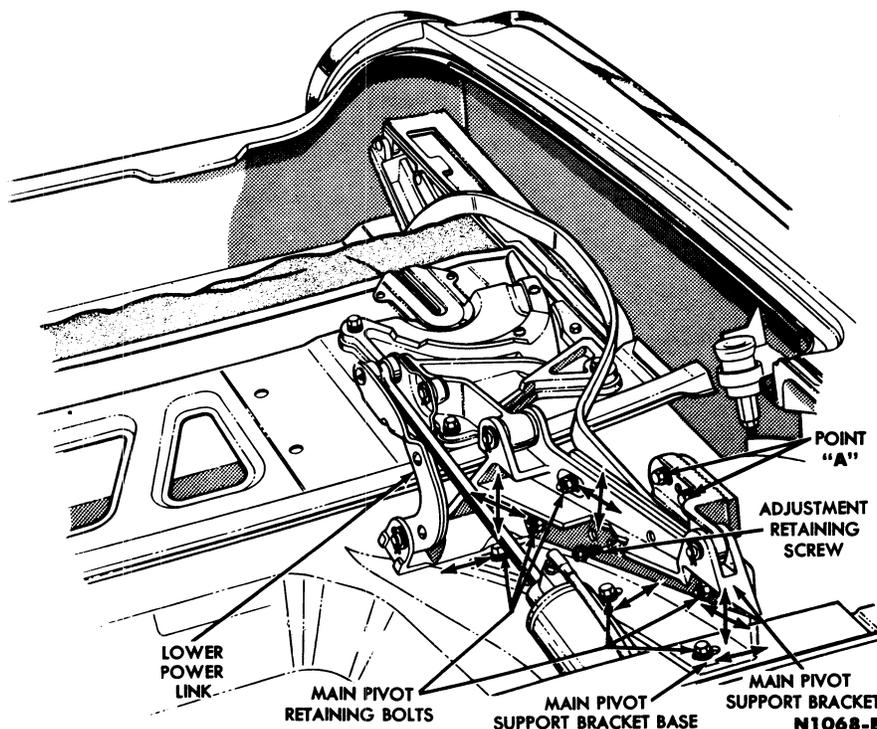

FIG. 26—Main Pivot Support Bracket
Quarter Window Clearance. Loosen the bolts marked "A" in Fig. 26, and adjust the serrations to get a snug fit between the rear quarter window and the intermediate side rail. After making this adjustment, check the top sag and the top stack adjustments.
1. Loosen the main pivot support bracket retaining bolts (Fig. 26).
1. At both main pivot brackets loosen the adjustment bolts retaining the main pivot support bracket to the floor pan (Fig. 26).